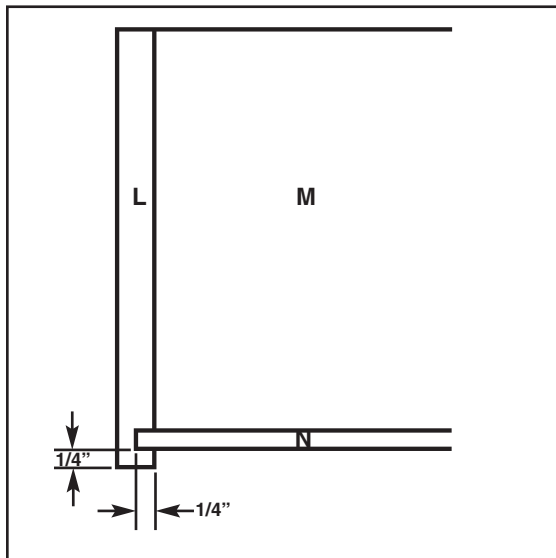

Figure 7
- Cut 1/4" wide by 1/4" deep dados in drawer sides (L). Refer to Figure 7 and Isometric.
- Assemble drawer boxes (L, M) using glue and 1 1/4" finish nails. Refer to Figures 7 and 8 and Isometric.